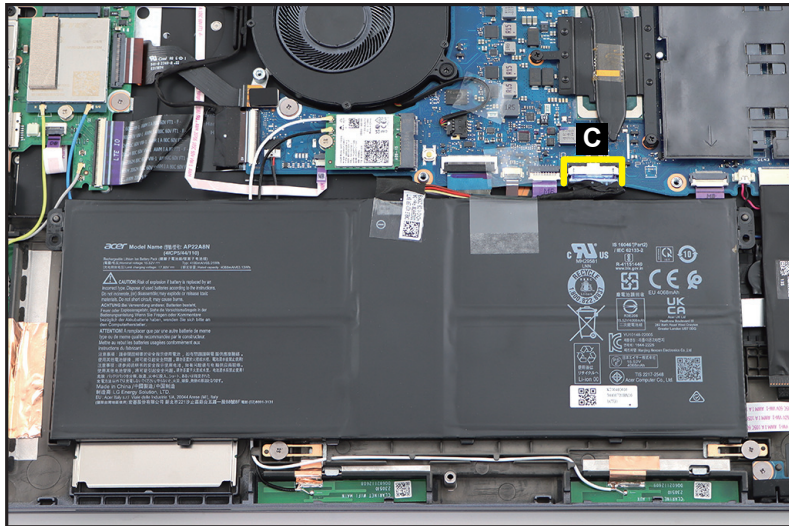

Figure 1-9. Battery Pack Removal
3. Disconnect the battery cable from the mainboard connector (C) (Figure 1-9).